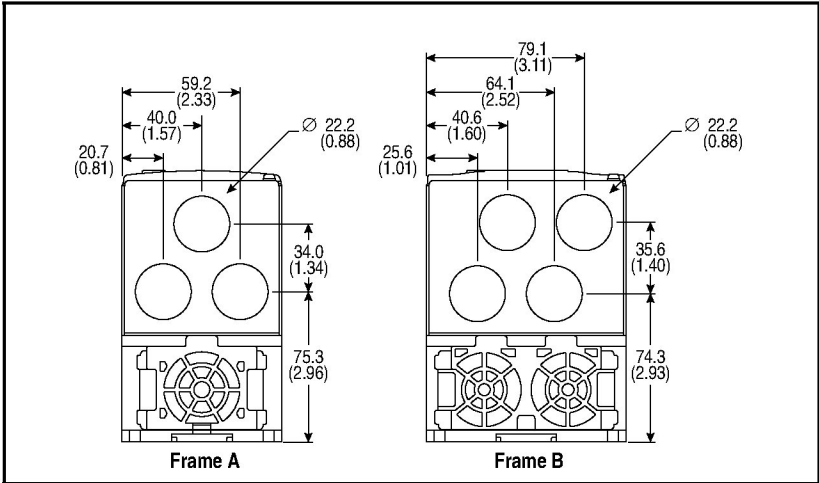

Figure 3.3 – Drive Dimensions - Bottom View
- ¹ Height dimension includes NEMA 1/IP30 Kit; see figure 3.3.